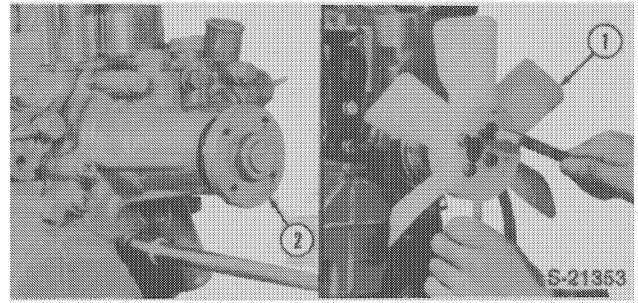

FIGURE 1-54
2. Remove the coolant fan, Figure 1-54.